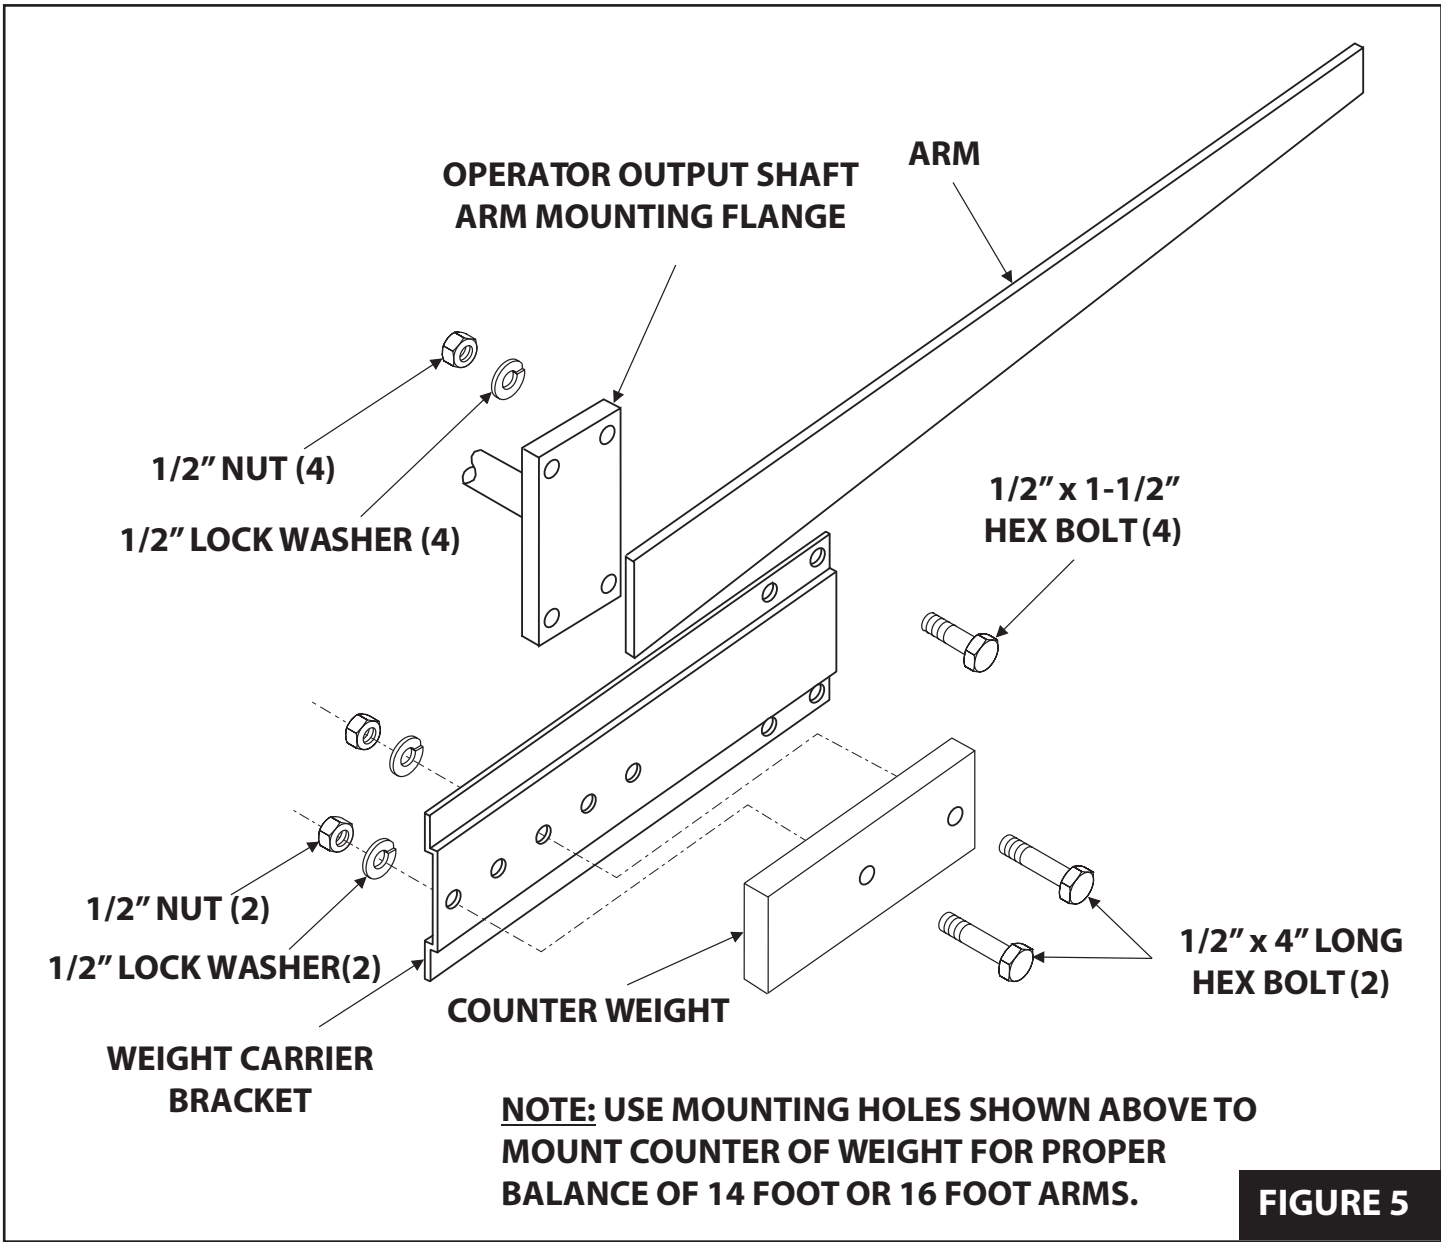

FIGURE 5
- 1. Install weight carrier bracket using four (4) 1/2 x 1-1/2" long hex bolts, lock washers and nuts as shown below. Do not tighten until told to do so.
- 4. Mount counter weight on weight carrier bracket using two (2) 1/2" x 4" long hex bolts, lock washers and nuts. Be sure to use holes in weight carrier bracket as shown in **Figure 5** for proper arm balance.